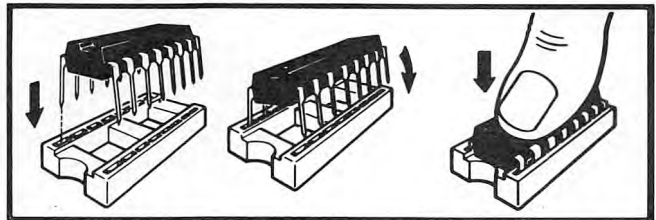

Figure 2-4. Installing the memory chip.
5. Install the memory chips one at a time, as described below. See Fig. 2-4.